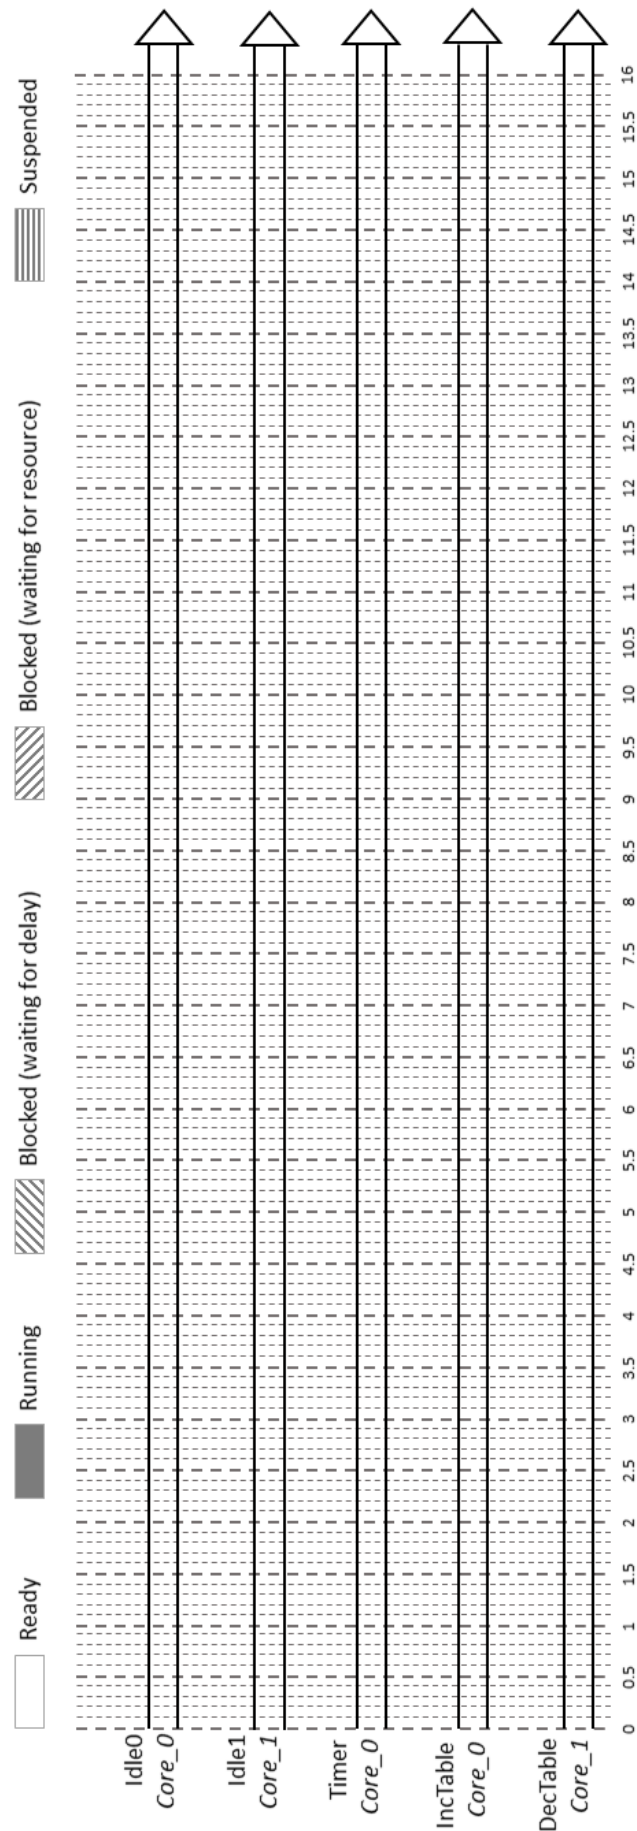

FIGURE 3.5 – Scenario 3 : Priority( $DecTable=4$ ,  $IncTable=4$ ),  $Core(DecTable=1$ ,  $IncTable=0$ ).
**Scenario 3 :** Run the program, copy the console, trace in the figure 3.5 the behavior of the 3 tasks until 160 ticks and explain the behavior.